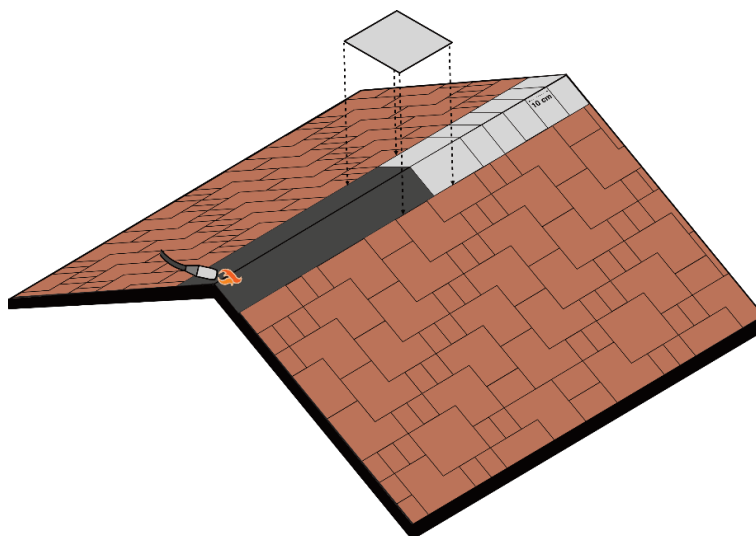

Fig. 19 – Installation of the ridge elements by torch
- Apply a band of bituminous membrane Safety EPP on the ridge by torch – Fig. 19.
- Proceed with the installation of the other ridge elements in sequence, leaving an exposed part of 10 cm between one element and the next, see Fig. 19.